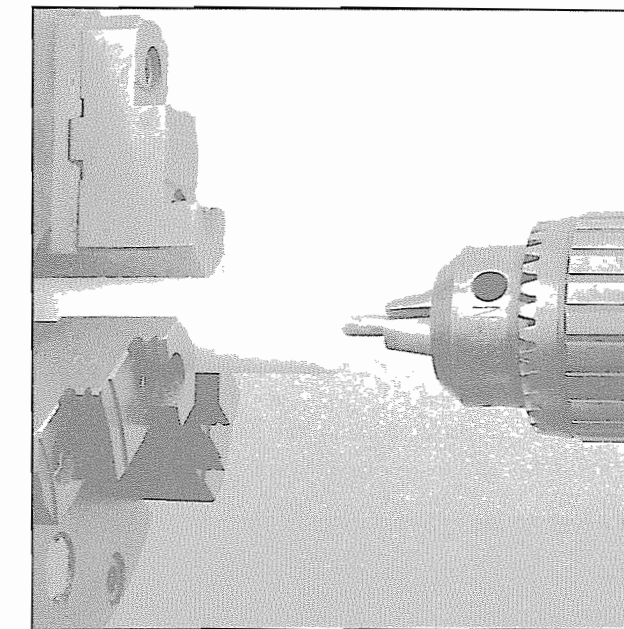

Figure 4-56. The end of a round Nylon bar is machined flat, and center-drilled on a lathe.
1. Cut 2 pieces of 1-1/8" dia., round Nylon barstock slightly longer than necessary. Mount them in a lathe, machine their ends flat, and center-drill their ends (Figure 4-56).